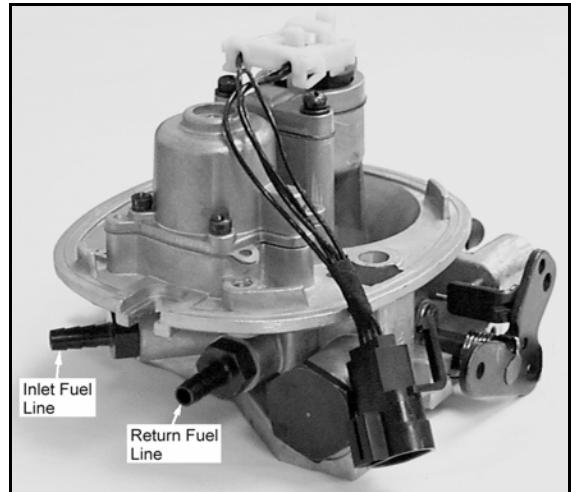

Figure 5
- 1 - Locate the fuel inlet fitting on the throttle body. The fitting on an angle closest to the throttle position sensor is the supply line fitting. See Figure 5.
- 1 - Locate the fuel outlet fitting on the throttle body. The fitting next to the large nut connects to the return line. See Figure 5.